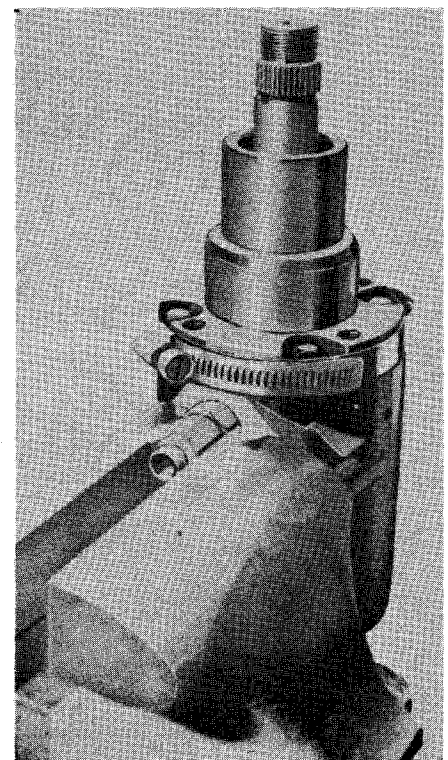

Fig. 32—A large hose clamp may be used as shown to align cover to valve body before tightening cap screws.
valve spool, over drive ring (19). Distance from top of spool (22) to top of spacer (20) should be 11/16 inch. Install torsion bar into valve spool. Align cross-holes in torsion bar and input shaft with a 0.120 inch pin punch and install pin into input shaft (18). Pin must be pressed into shaft until end of pin is about 1/32-inch below flush. Place spacer (17) over spool and carefully install spool assembly into valve body. Position original shims (11) on thrust washer (13) (if the original input shaft and cover are to be used), lubricate new seal ring (31), place seal ring in upper cover (32) and install upper cover assembly. Align the match marks on cover flange and valve body and install cap screws finger tight. Tighten a worm drive type hose clamp around cover flange and valve body to align the outer diameters, (as shown in Fig. 32), then tighten cap screws to a torque of 18-22 ft.-lbs.